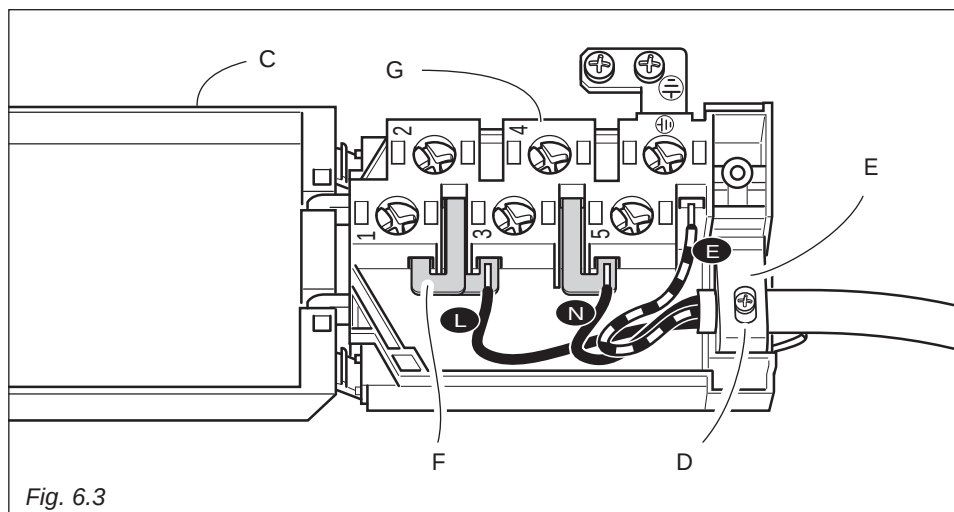

Fig. 6.3
- Unscrew the screw **D** and open completely the cable clamp **E** (fig. 6.3).
- Position the U bolts **F** onto terminal board **G** (fig. 6.3) according to the diagram in fig. 6.2.